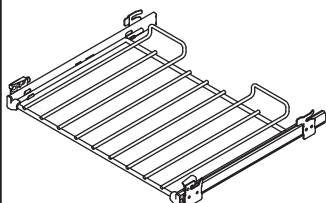

Fig. 2.19
- 1 set of side supports (**Fig. 2.19**)